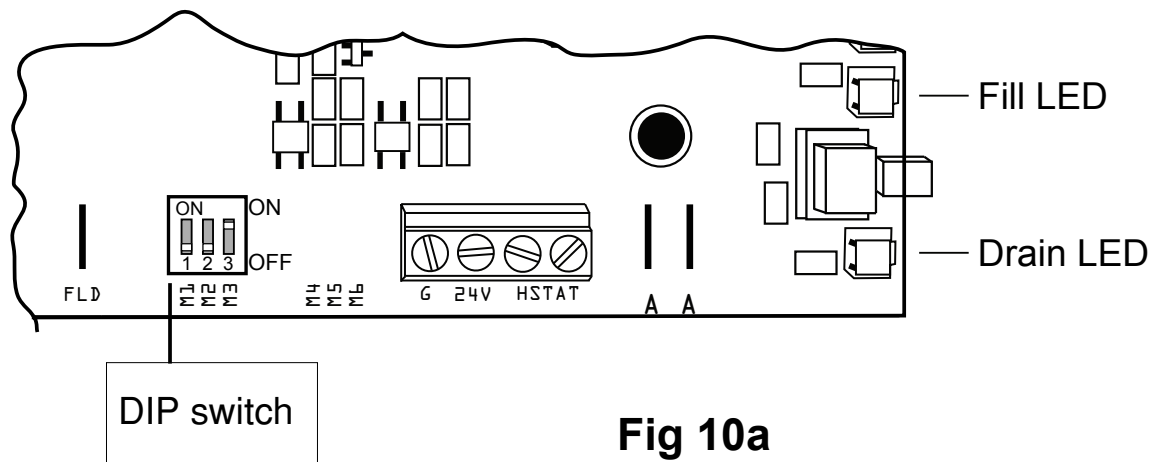

Fig 10a
10.5 The DIP switches, located on the bottom of the circuit board (see Fig 10a), are set by the factory based on the kW of the elements used in the unit.